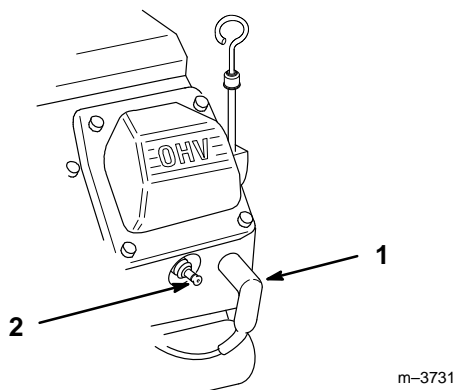

Figure 19
2. Pull the wire(s) off the spark plug(s) (Fig. 19). Now clean around the spark plug(s) to prevent dirt from falling into the engine and potentially causing damage.
3. Push the wire(s) onto the spark plug(s) (Fig. 19).